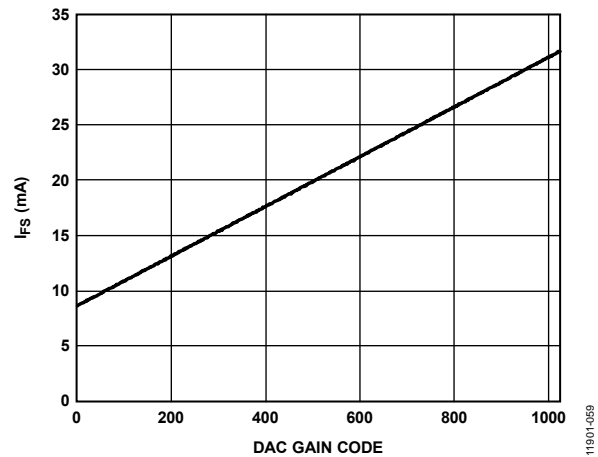

Figure 57. DAC Full-Scale Current vs. DAC Gain Code
For nominal values of  $V_{REF}$  (1.2 V),  $R_{SET}$  (10 kΩ), and DAC gain (512), the full-scale current of the DAC is typically 20 mA. The DAC full-scale current can be adjusted from 8.64 mA to 31.68 mA by setting the DAC gain parameter, as shown in Figure 57.